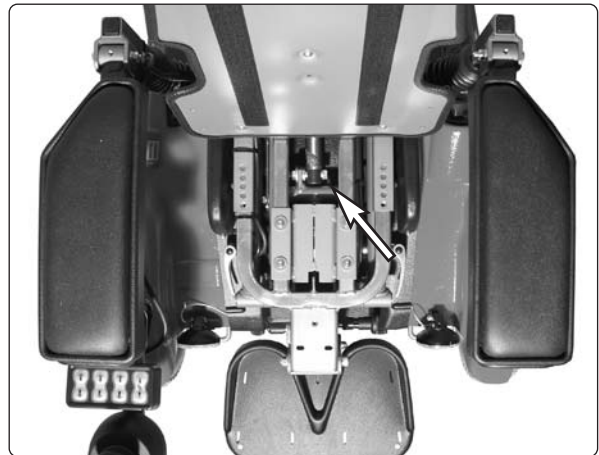

Fig. 36. Seat lift mechanism front fixing.
6. Remove the seat lift actuators front fixing bolt, see fig. 36.